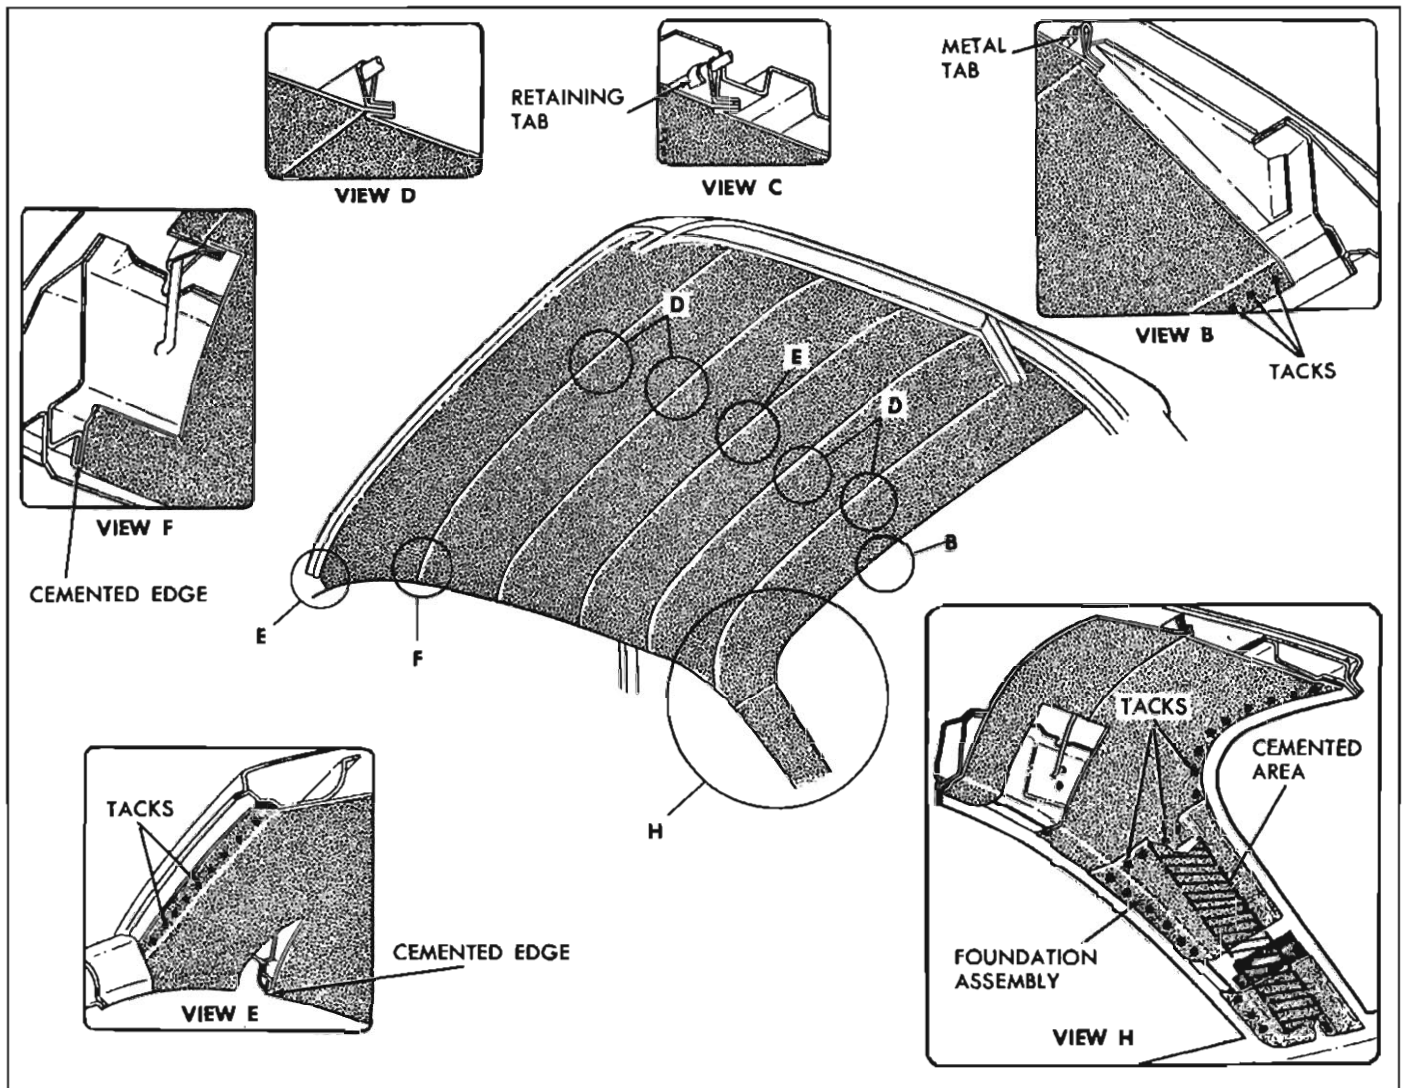

Fig. 13—"27" Style Headlining Installation
3. On "27" styles, remove tacks securing forward edge of rear quarter filler upper foundation assembly (View H, Figure 13). Turn back trim and with suitable flat-bladed tool carefully break cement bond between foundation assembly and pillar and remove assembly.
4. Carefully detach cemented edge of headlining from side roof rail at each door opening. (View F, Figures 13 and 14). Remove staples or tacks at quarter window opening and detach cemented edge of headlining on "27" styles (View H, Figure 13).
7. At front roof bow, bend down metal tabs (View C, Figures 13 and 14). At center of back window, bend down tab securing center of rear listing wire (View B, Figures 13 and 14).
2. Install rear listing wire. Center and align rear of headlining in relation to back window and side roof rails, then bend up tab securing center of rear listing wire (See View B, Figures 13 and 14). Working forward, install ends of listing wires into listing wire holes in side roof rails.
3. At front roof bow, check headlining for proper centering and bend tabs over listing wire (View C, Figures 13 and 14). Install remaining listing wire into holes in side roof rails.
8. Using headlining inserting tool, permanently install edge of headlining around roof inner rail flange (View F, Figures 13 and 14). At quarter window on "27" styles, permanently tack or staple headlining (View H, Figure 13).
10. On "27" styles, apply trim cement to foundation assembly attaching surface at quarter window and carefully cement and tack forward edge of assembly to tacking strip (View H, Figure 13).